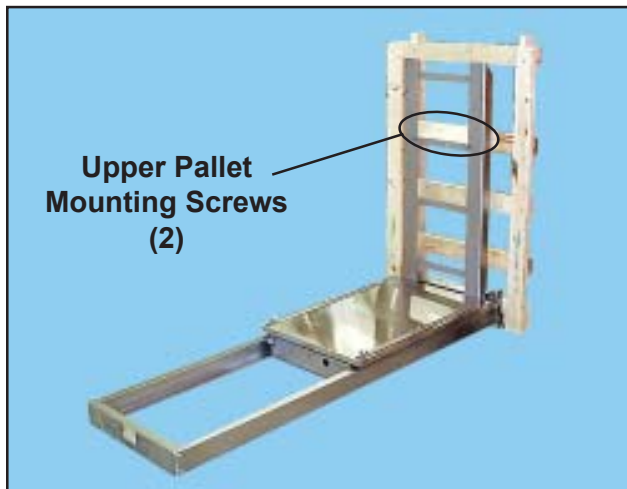

Figure 7. Table/Skid Laid Down
1. Lay the table down on its back (Figure 7). Do not damage the electric power cord or foot controller.